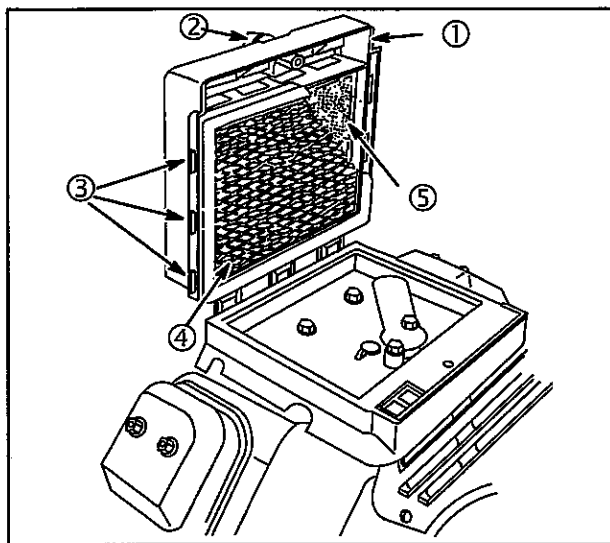

Fig. 3
1. Remove knob(s) (2) and cover assembly (1), Fig. 3.
7. Install paper cartridge in cover with tabs on cartridge (3) in slots of cover, Fig. 3.